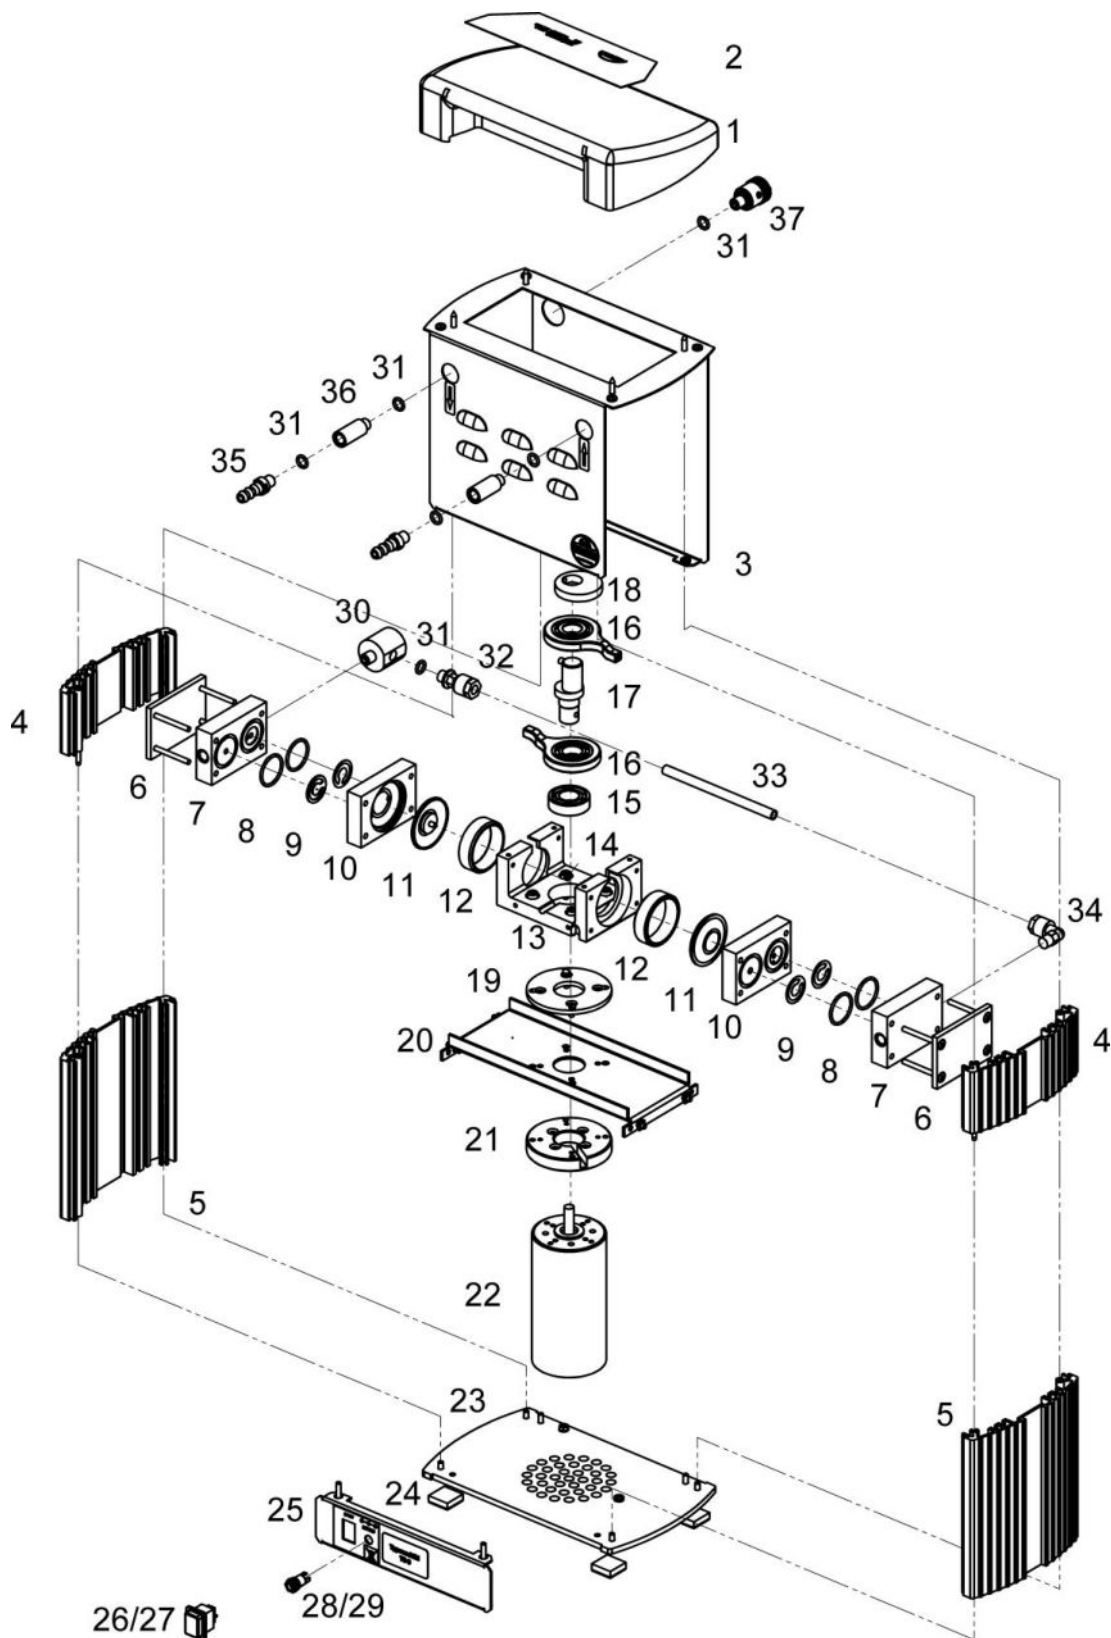

Fig. 4 Exploded view (MPC 095 Z)
1. Place the pump so that the diaphragm (6) is lying in a horizontal position.
2. Tighten the diaphragm (6) with the torque of 5 - 6 Nm.
3. Bring the connecting rod (see Fig. 4) and the diaphragm (6) into the central position.
4. Replace the pump head (5).
5. Insert the valves (4) and the o-rings (3). Ensure that they are lying completely flat. Do not insert the burred side facing the sealing surface.
6. Replace the connecting head (2) and tighten the 2 x 4 cross head screws (1) with a torque of 3 - 4 Nm.